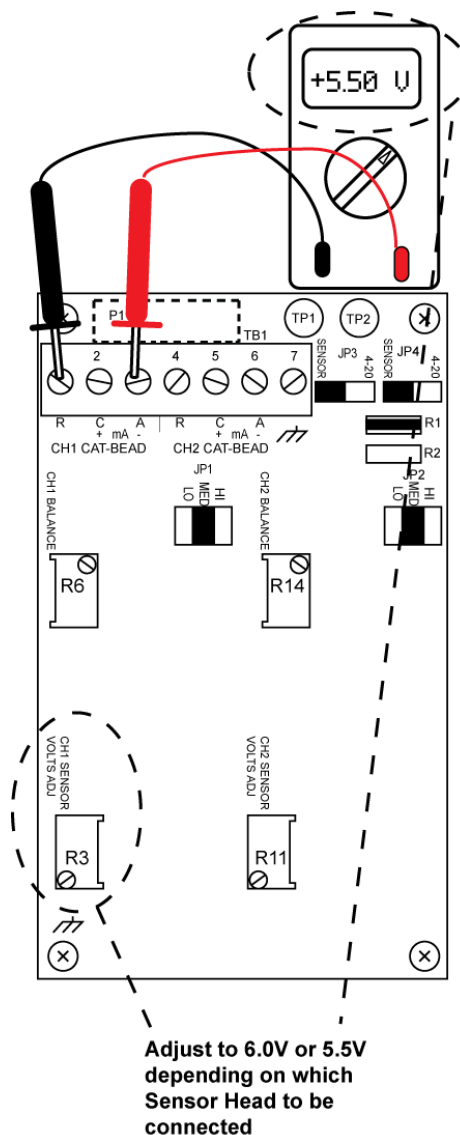

Figure 3-3. Sensor Voltage Adjustment
- Trim any excess wire and connect the detector head's black, white, and red wires to terminal block TB1 terminals R, C, and A on the Cat Bead Input PCB as shown in Figure 3-3.
- 4) Remove system power and connect sensor wires to the A-C-R terminals as shown in Figure 3-3 depending on system configuration.